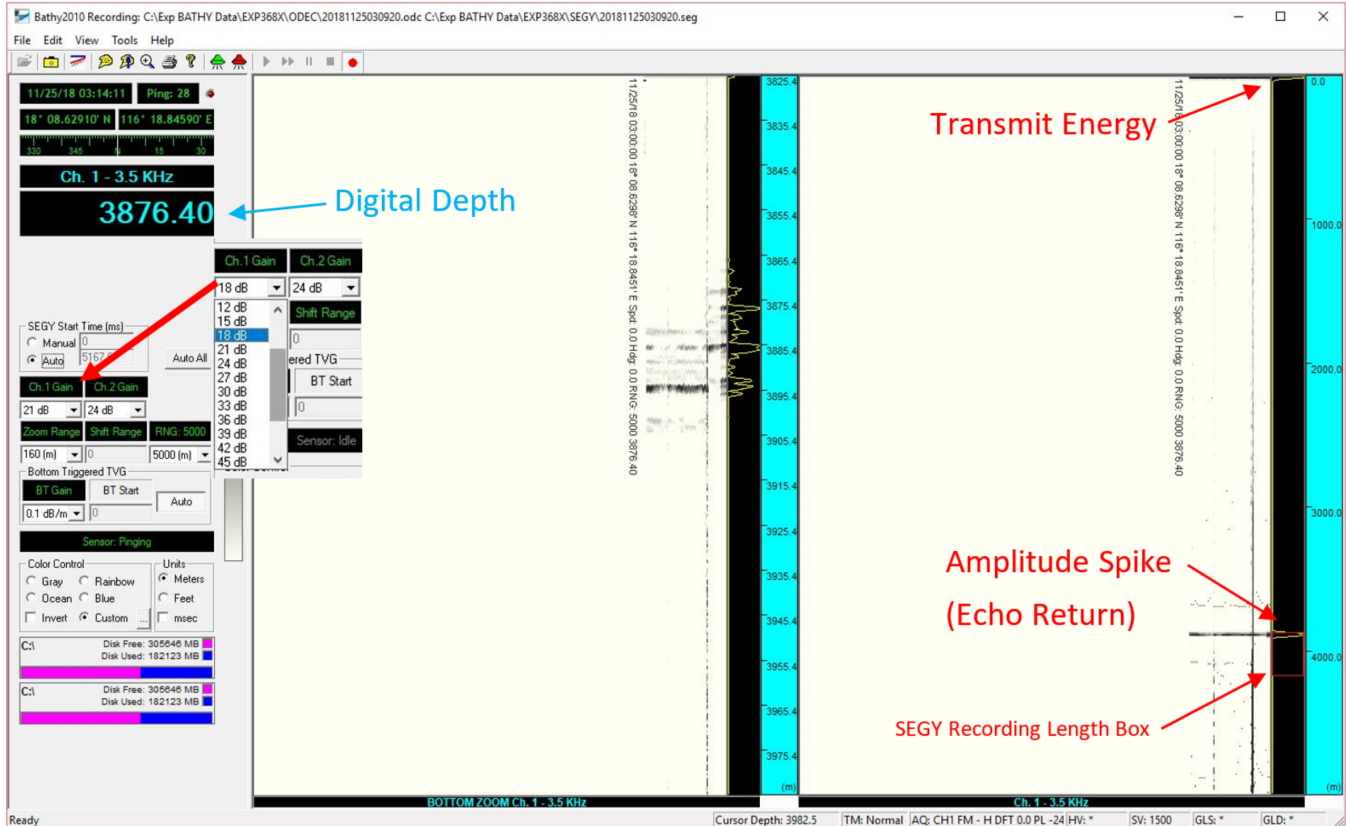

Figure 10: Main Screen displaying digital depth, zoom depth Amplitude spike and SEGY recording box.
Click the Green transducer icon  on the tool bar to start pinging the sonar. The sensor status window will change to “Sensor:Pinging” and the letters will turn green. The transducers will start pinging and the depth record should start displaying. *Figure 10* shows only the 3.5 kHz sonar with the full depth scale on the right and the bottom zoom window on the left. Click the Red transducer icon  on the tool bar to stop pinging the sonar.
The sonar will have to ping a few times and get good returns before it will detect and display a digital bottom depth in meters. In *Figure 10*, the seafloor depth detected by the sonar is shown in the “Ch. 1 – 3.5 kHz” window (big blue numbers). The display windows show a nice seafloor on the right and shows some sub-bottom reflectors on the left in the zoom window. If you are not finding the seafloor there are a few things you can do.
3. Increase or decrease the Channel Gain from the drop down menu (*Figure 10*). The gain amplifies the signal received by the transducer. Increasing the gain can amplify the signal to see better reflectors but it also amplifies noise. Try different settings to see the response and try to find a setting that works (*Table 1*). During heavy seas or when the thrusters are down a lot of noise can be generated and changing the gain may or may not help. Note in *Figure 10* that the gain was increased during the survey and can be seen to help see the seafloor and the sub-bottom reflectors.
Set the SEGY Start Time to “Auto” (*Figure 10*). The start time of the recording of the SEGY file is triggered by the determined digital bottom depth. If no depth is determined then the start time will snap to 0m. If the sonar cannot determine a digital bottom depth then the SEGY start time can be set to Manual but the user will have to click and drag the recording box manually as the seafloor depth changes.